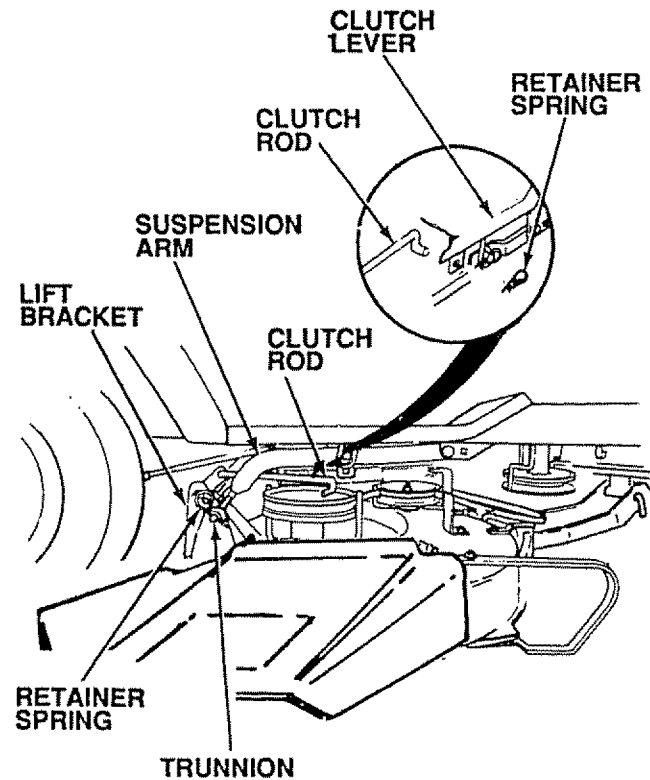

FIGURE 34
- Install clutch rod in clutch lever (Fig. 34).